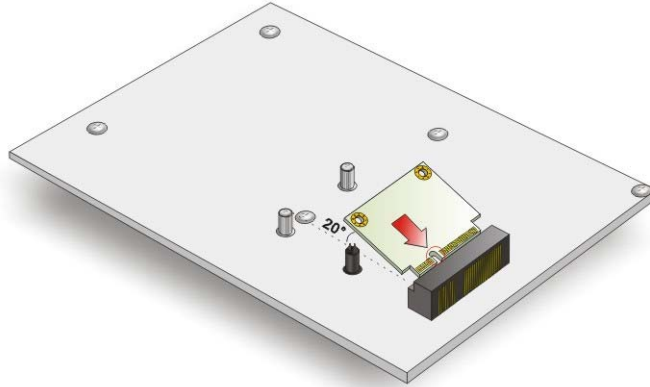

Figure 4-18: Insert the Half-size PCIe Mini Card into the Socket at an Angle
Step 3: Insert into the socket at an angle. Line up the notch on the card with the notch on the connector. Slide the PCIe Mini card into the socket at an angle of about 20° (Figure 4-18).